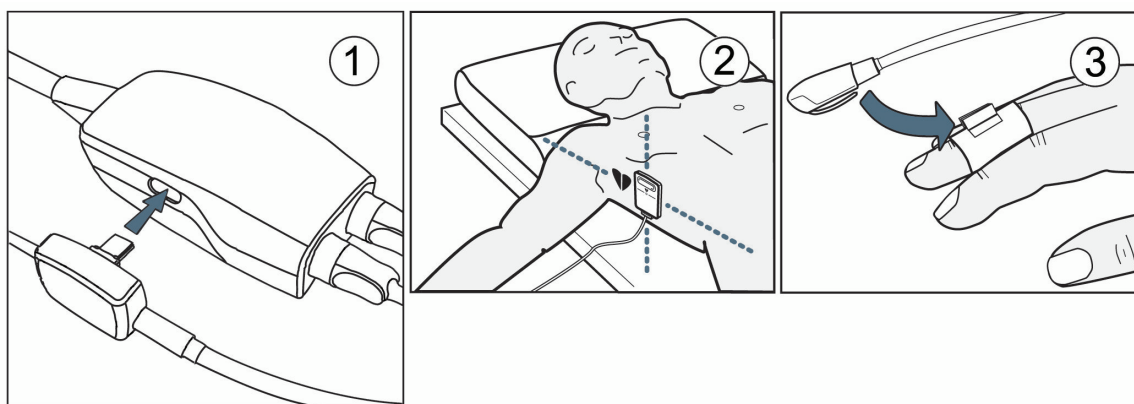

Figure 11-4: Heart reference sensor application
1. Connect the HRS to the pressure controller. See (1) in Figure 11-4 on page 207.
2. Apply the heart end of the HRS to the patient at phlebostatic axis level by using an HRS clip. See (2) in Figure 11-4 on page 207.
3. Attach the other end of the HRS to the finger cuff. See (3) in Figure 11-4 on page 207.